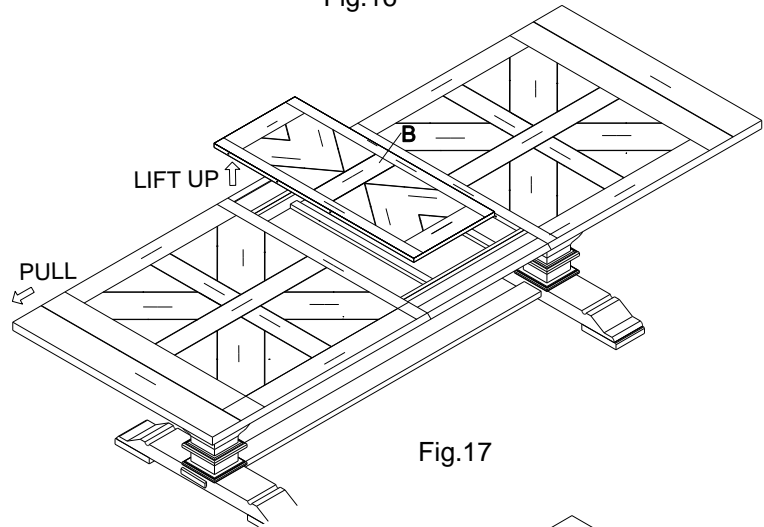

Fig.17
- Pull 1 end of table and lift up the extension leaf (B)
*Reference Fig.17*